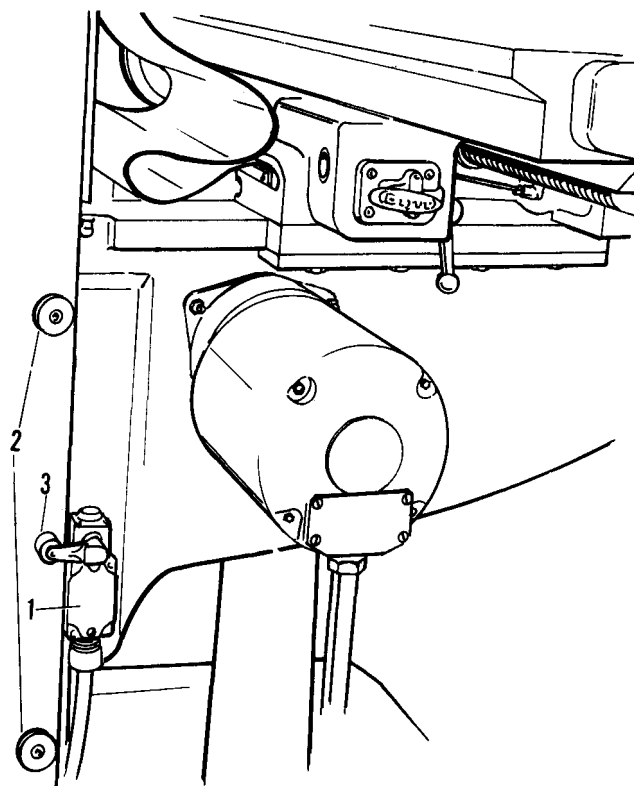

Figure 3. Left Side Of Knee
19. VERTICAL TRAVEL MICROSWITCH, POWER ELEVATE (figure 3).